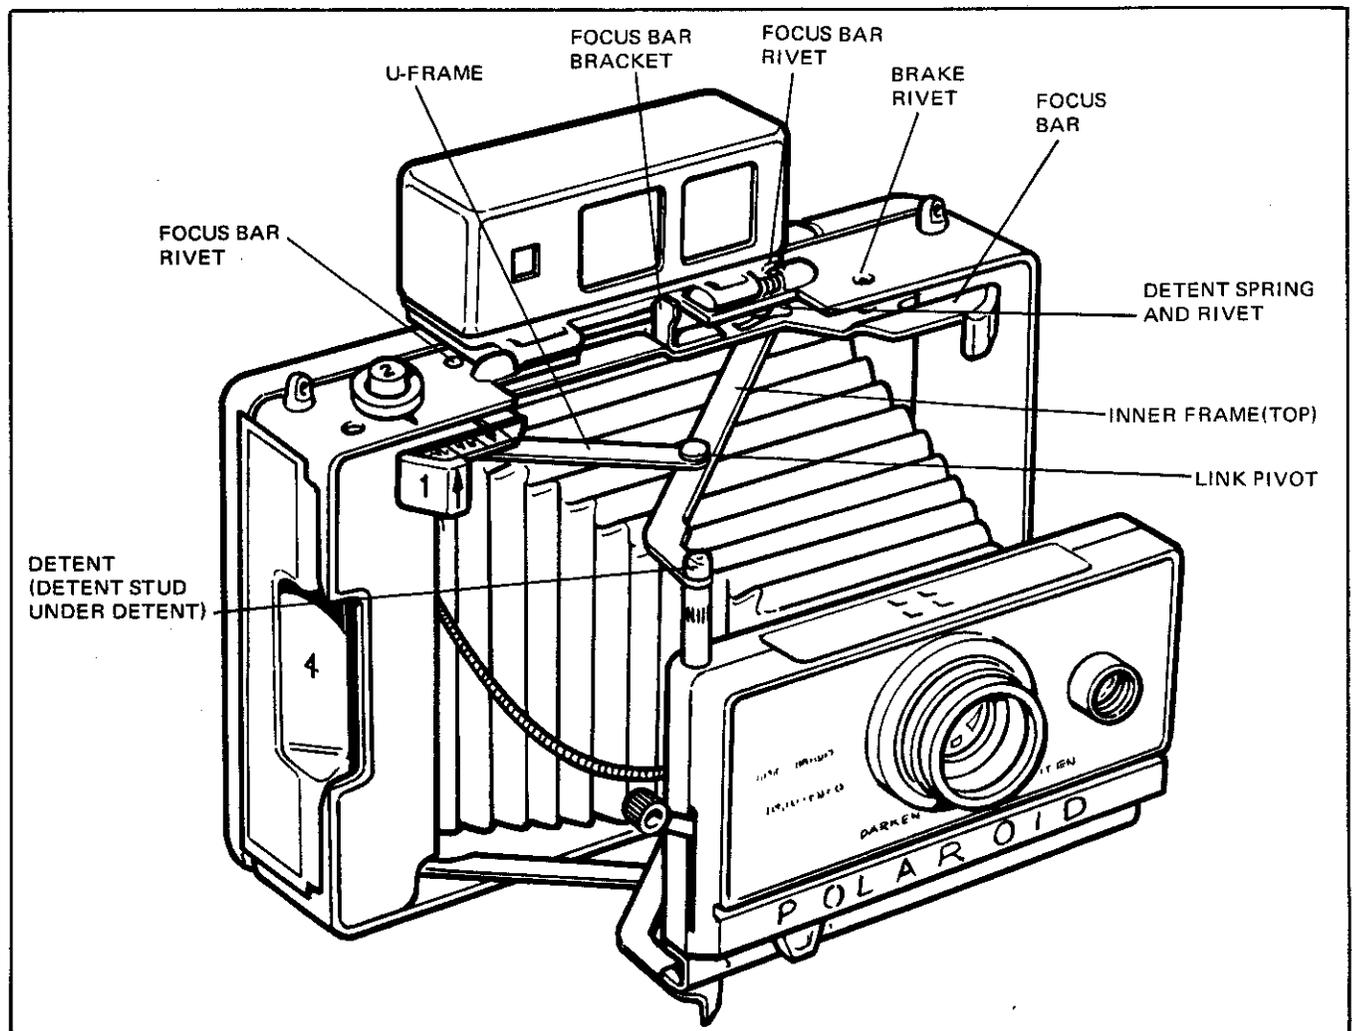

FIG. 5.21 REMOVING THE FOCUS BAR AND INNER FRAME
1. Remove the link pivot holding the inner frame (top) and the U-frame using tool #11026 (Figure 5-21). Discard the spacer.
1. Unrivot the link pivot holding the top inner frame to the U-frame (Figure 5-21) using tool #11026. Discard the spacer.
1. Extend the bellows to detent lock-in. Unrivet the link pivots holding the U-frame to the top and bottom inner frames using tool #11026. (Refer to Figures 5-21 and 5-22.) Discard the spacers.